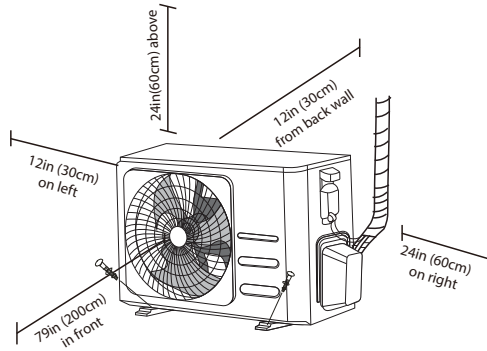

Fig. 8 — Unit Clearances
Allow sufficient space for airflow and service of the unit. See Fig. 8 — on page 9 for the required minimum distances between the unit, walls or ceilings.
- Meets all clearance requirements (see figure 8).